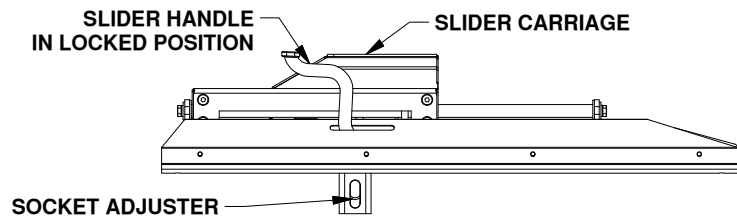

Figure A1: View of driver side of Slider Base.
**⚠ WARNING:** Whenever the slider base is being moved, the slider handle must be in the locked position, and the carriage must be unable to slide, see Figure A1. Failure to ensure that the handle is in the locked position can lead to property damage, or serious injury.
**⚠ WARNING:** Check the latch pin under the truck. Make sure that the latch pin has passed through both sides of the socket and that the pin is covered up inside the socket by the socket adjuster, see Figure A1. If the pin is visible inside the GN hitch socket, retract the GN latch handle and use the draw-down bolt to adjust the socket adjuster.